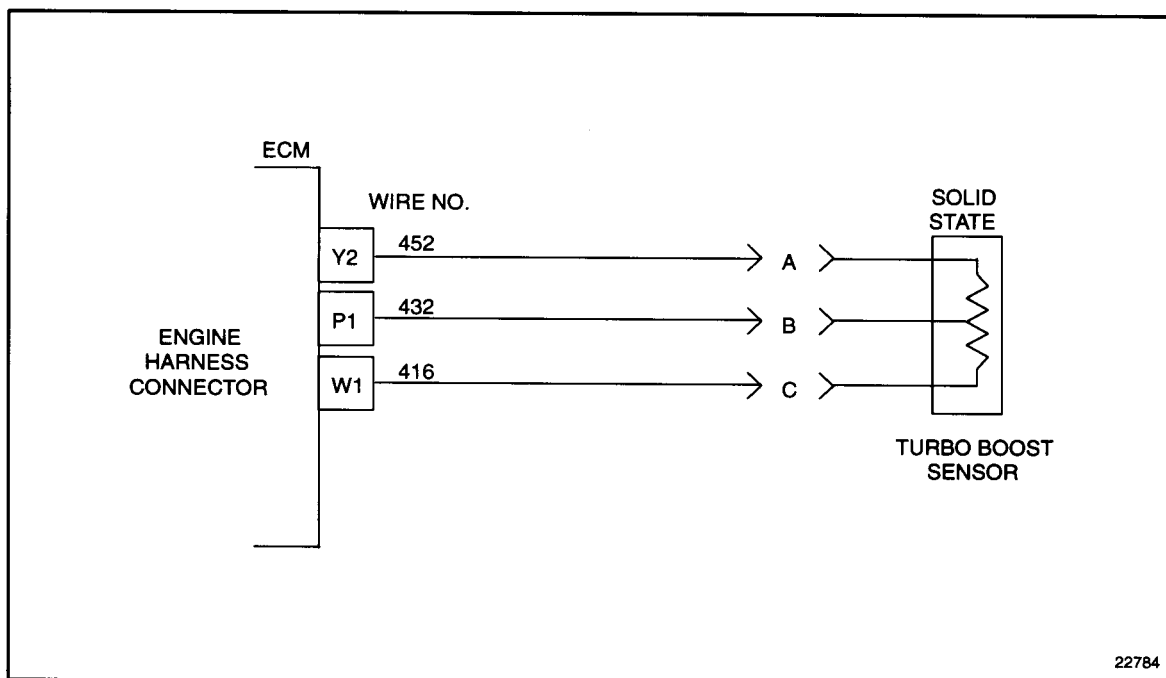

Figure 34-4 Engine Harness Connector to Turbo Boost Sensor
1. Check terminals at the ECM harness connector (both ECM and harness side) for damage: bent, corroded, and unseated pins or sockets. See Figure 34-4.